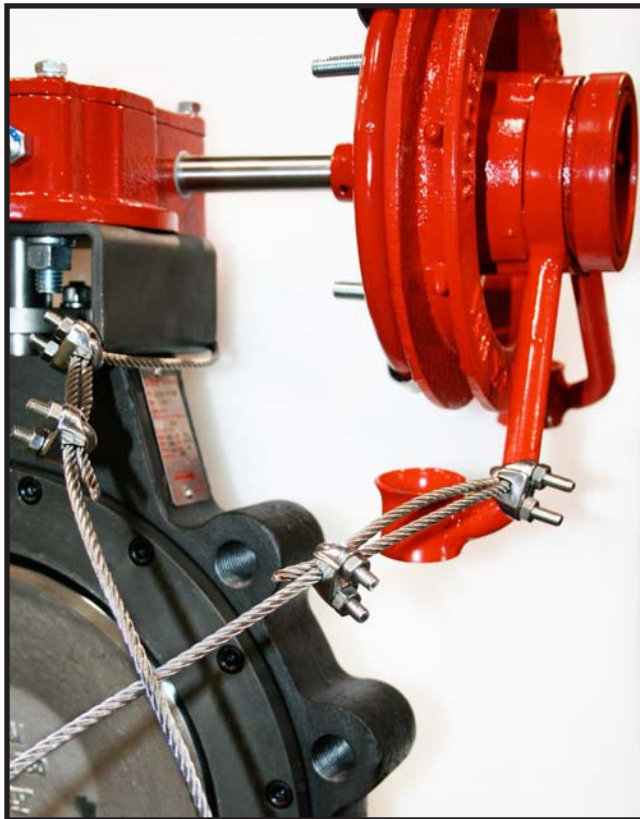

Figure 1: Wire rope secured around the bracket of valve and one "arm" of the chain guide.
2. Loop wire rope around bracket or neck of valve. **See Figure 1.**
3. Close the loop by applying a wire rope clip. Secure the loop with the second wire rope clip as tightly as possible. See **WARNING Note 5** and **Figures 1 & 2.**
5. Loop wire rope around one "arm" of the chain guide. **See Figure 1.**